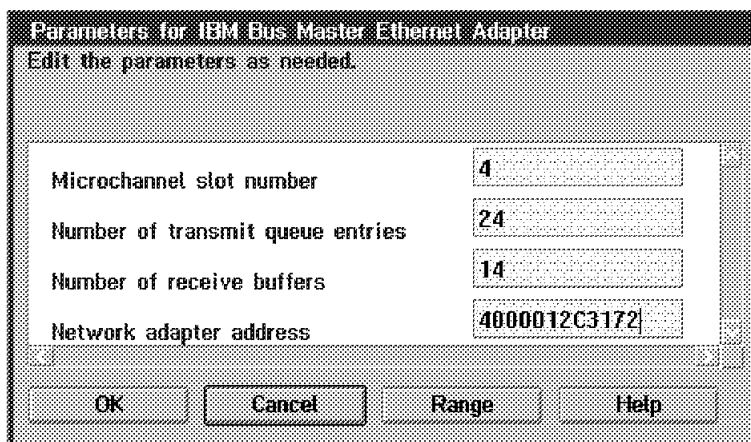

Figure 110. 3172 Edit Adapter Parameters Window for Ethernet/802.3 Busmaster Adapter
- Step 2. In the Edit Adapter Parameters Window for Ethernet/802.3 Busmaster Adapter, enter the Microchannel slot number and the network address of the Ethernet adapter, 4000012C3172 as shown in Figure 110. Leave all other parameters at their default values.